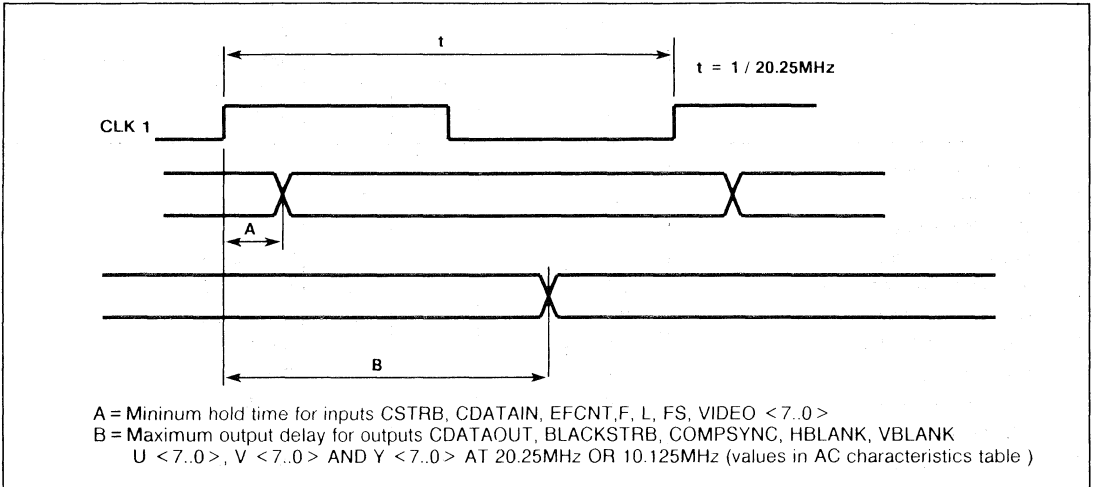

Fig.5 Input timing diagram
2. All hold times are specified relative to the positive edge of CLK1. See Fig 5.
3. Delays are specified relative to the positive edge of CLK1 at 50pF load. See Fig 5.